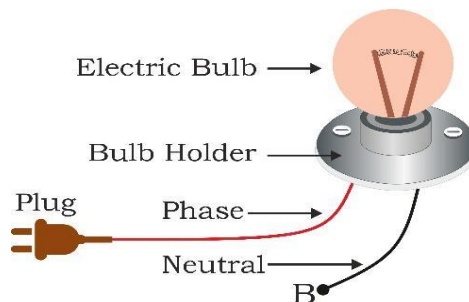

Fig. 2.7: Electric plug is connected to a phase wire
Step 5. Connect the terminal of one wire to the plug as shown in Figure 2.7.